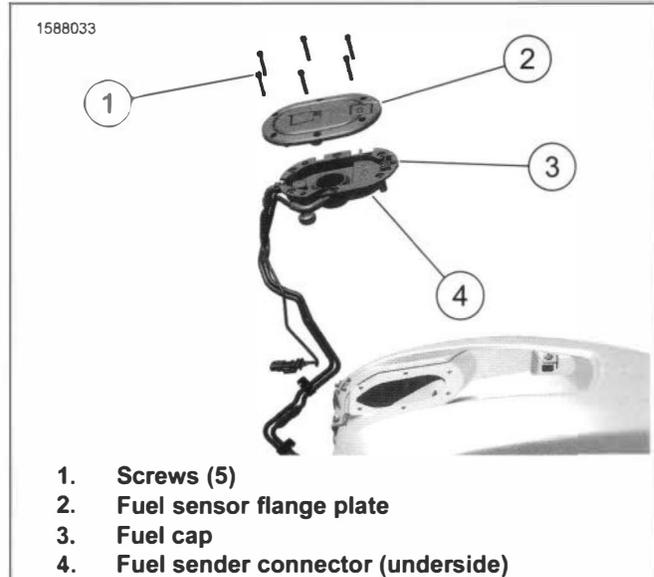
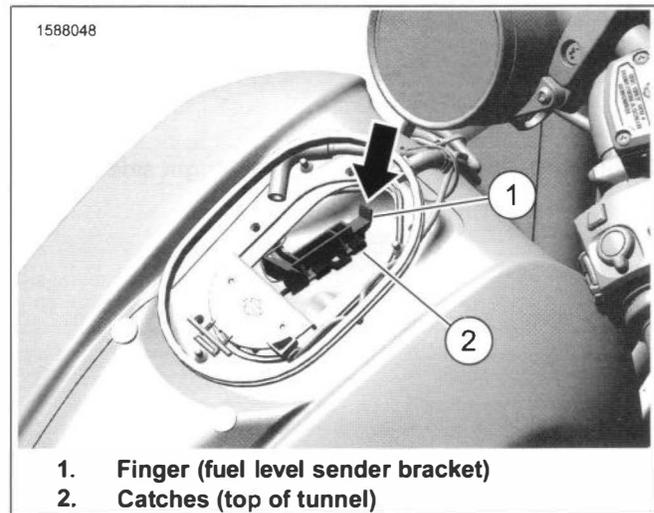

Figure 6-19. Fuel Inlet and Sensor Flange Plate
Figure 6-20. Finger (Fuel Level Sender Bracket)
1. See Figure 6-19. Remove and discard screws (1).
2. Remove fuel cap (2) and fuel tank sensor flange (3) far enough to disconnect the fuel sender connector (4) from under side.
3. See Figure 6-20. Pull up on finger (1) and slide fuel level sender bracket rearward until four ears on bracket are free of catches at top of tunnel (2).
1. See Figure 6-20. With the finger on the fuel level sender bracket (1) pointing forward, install fuel level sender into left side of fuel tank.
2. Engage four ears on fuel level sender bracket so front set of catches at top of tunnel (2). Push fuel level sender bracket forward until ears/tabs are fully engaged.
3. See Figure 6-19. Connect fuel level sender connector (4) to fuel sensor flange plate (3).
4. Install fuel sensor flange plate (3) and fuel cap (2).
5. Install **new** screws (1). Tighten in star pattern.